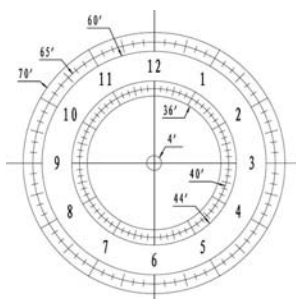

Figure 13
d. Use the “◀” or “▶” button to turn the RA axis to rotate the Polar Scope dial to a clock position where 12 is at the top, as shown in Figure 13.